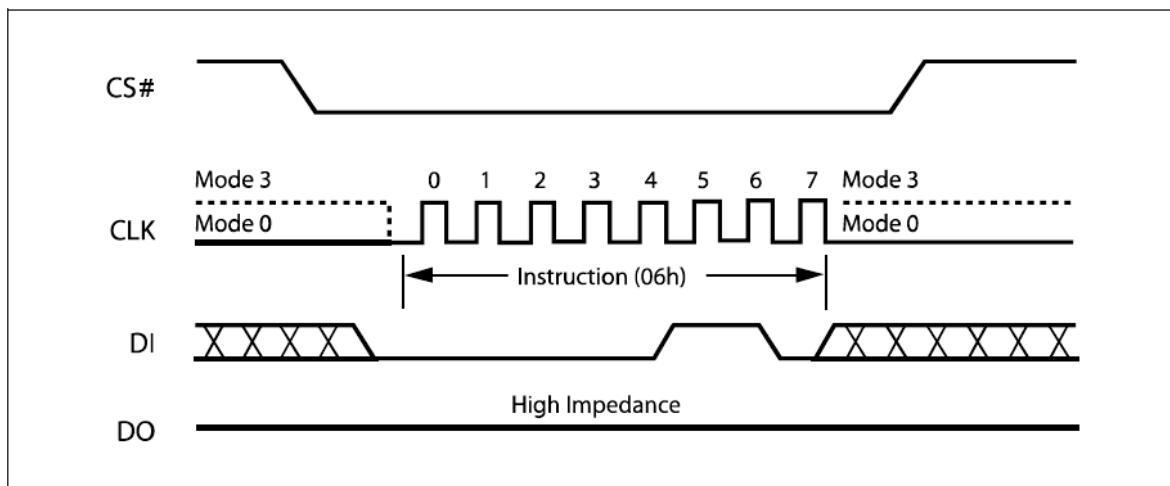

Figure 5. Write Enable Instruction Sequence Diagram
The Write Enable (WREN) instruction (Figure 5) sets the Write Enable Latch (WEL) bit. The Write Enable Latch (WEL) bit must be set prior to every Page Program (PP), Sector Erase (SE), Half Block Erase (HBE), Block Erase (BE), Chip Erase (CE) and Write Status Register (WRSR) instruction.